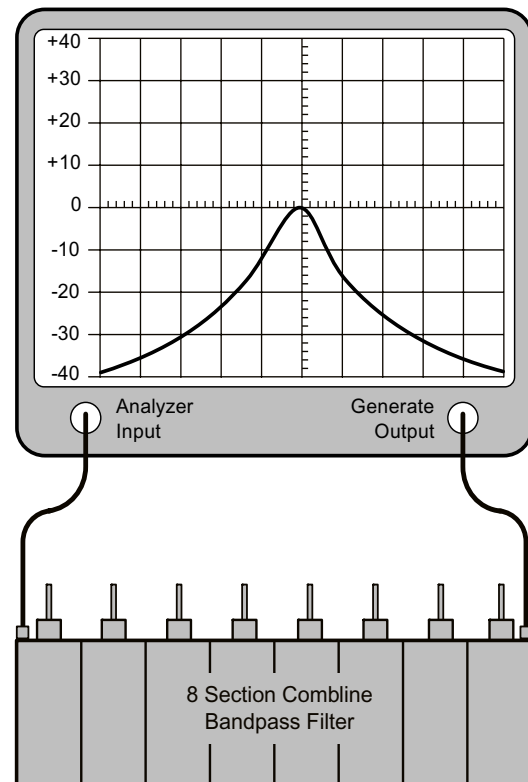

Figure 1: Preselector Tuning.
- 1) Connect test equipment as shown in **Figure 1**.